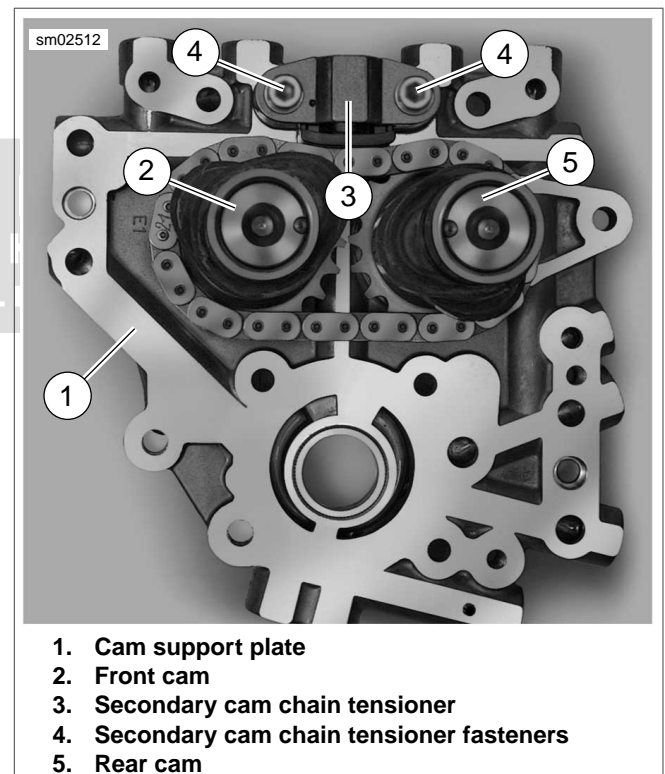

Figure 3-108. Camshafts
1. See Figure 3-108. Remove screws (4) and remove secondary cam chain tensioner (3).